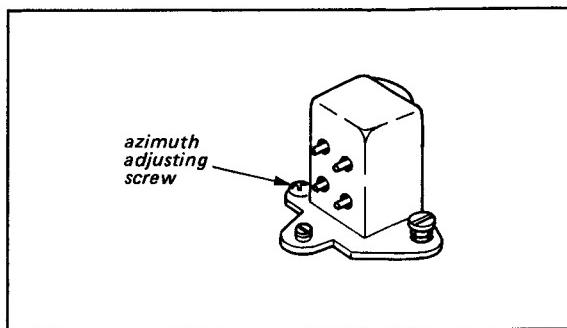

*Fig. 6-1 Audio output level check*
2. Connect VTVM as shown in Fig. 6-1.
1. Connect VTVM as shown in Fig. 6-1.